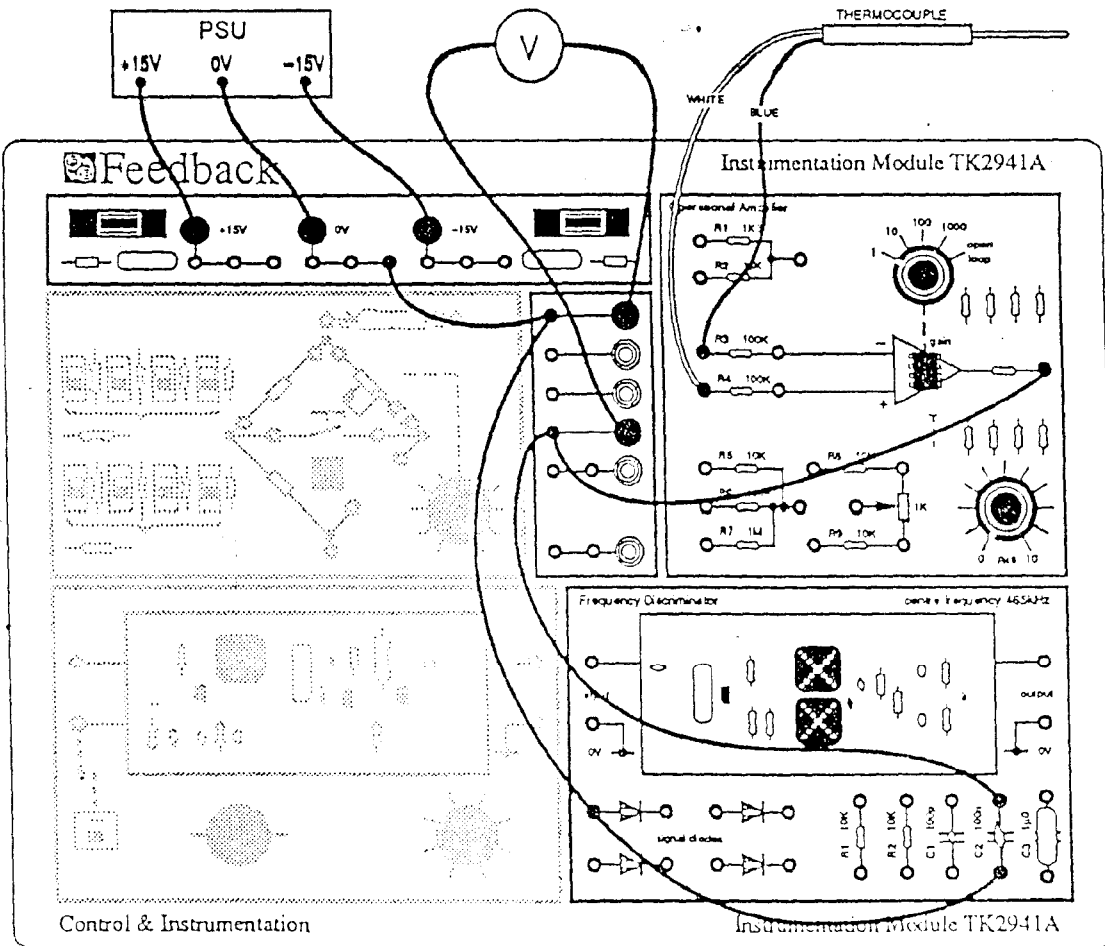

Figure 10-3
- 3) Connect the circuit with probe (black sleeve) as shown in figure 10-3. Switch on the power supply and place the probe near to the amplifier input so that all points are at the same temperature (the capacitor in the circuit is used to avoid the possible pick-up of signal from oscillator)